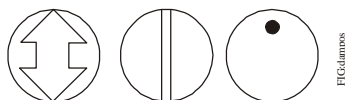

Figure 7: Damper Position
- Check that the damper blade is visible or its position is permanently marked on the end of the damper shaft, as illustrated in Figure 7.